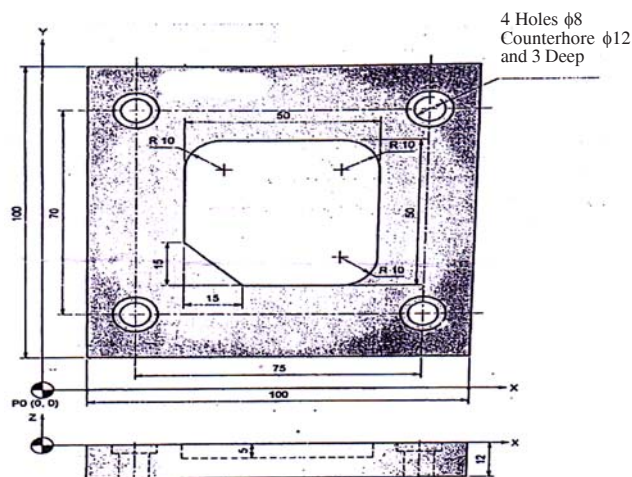

fig. 4a
- Q4) a)** Write a manual part program to machine the contour for the component shown in fig. 4a. and drill a hole. The thickness of component is 18mm. Assume suitable data. [12]